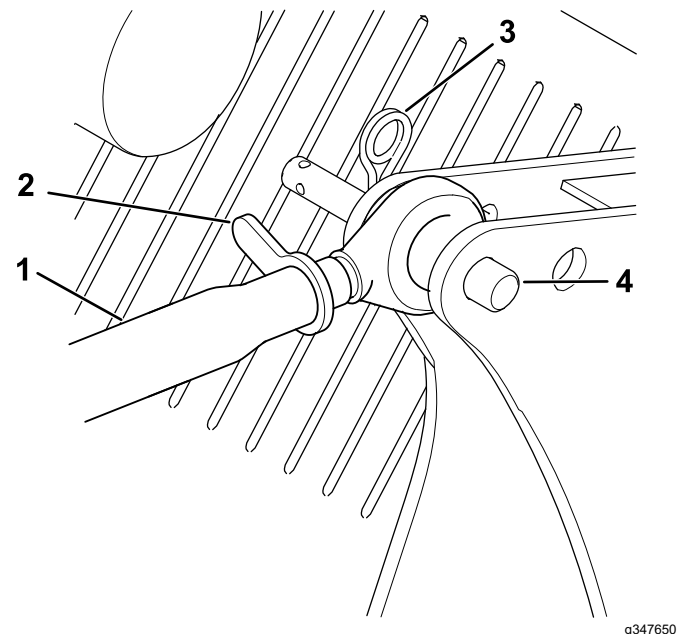

Figure 26
6. Loosen the upper link jam nut and rotate the upper link (Figure 26) so that the attachment is on the stand legs and on level ground.